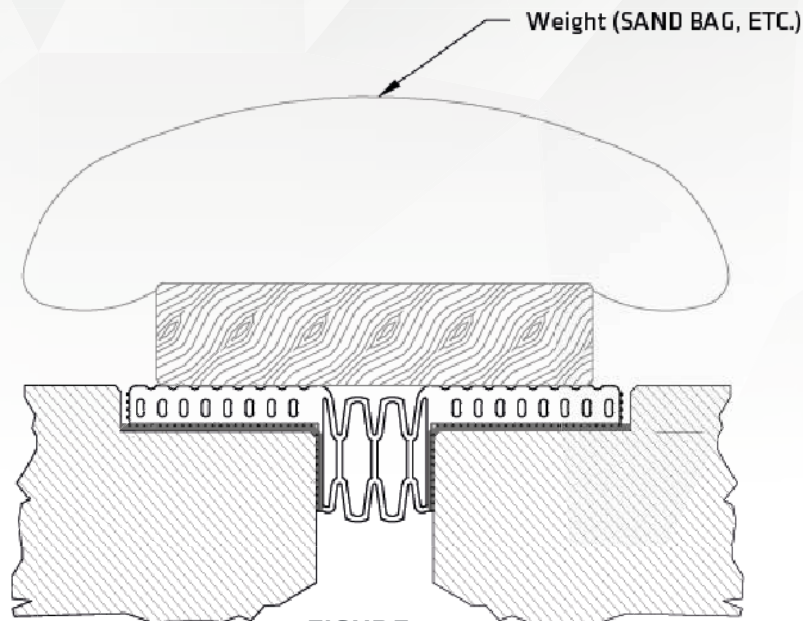

FIGURE 4
- Starting at one end of the seal, lift the wing that was not previously seated in the blockout and push inward on the compression seal using a shaft (plywood, metal bar stock, etc.). As you push inward on the compression seal every few inches, have someone follow behind you walking on the seal to seat it into place. Place a boards on the compression seal on the entire length of the seal and place a weight (sand bag, etc) in every couple feet on top of the boards (see Figure 4). This will force the seal to seat into the epoxy during the cure cycle. Allow the weights and boards to remain on the seal for approximately 8 hours.